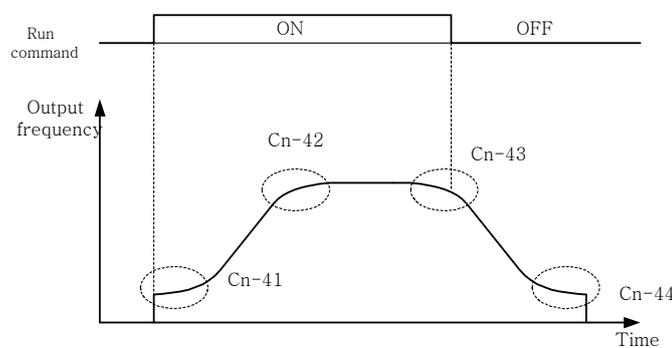

Fig 28 S curve
(34) S-curve Characteristic time at Acceleration start (Cn-41)
(35) S-curve Characteristic time at Acceleration end (Cn-42)
(36) S-curve Characteristic time at Deceleration start (Cn-43)
(37) S-curve Characteristic time at Acceleration start (Cn-44)
- Using the S-curve characteristic function for acceleration and deceleration can reduce shock to the machinery when stopping and starting. With the inverter, S-curve characteristic time can be set respectively for beginning acceleration, ending acceleration, beginning deceleration and ending deceleration. The relation between these parameters is shown in Fig 28.